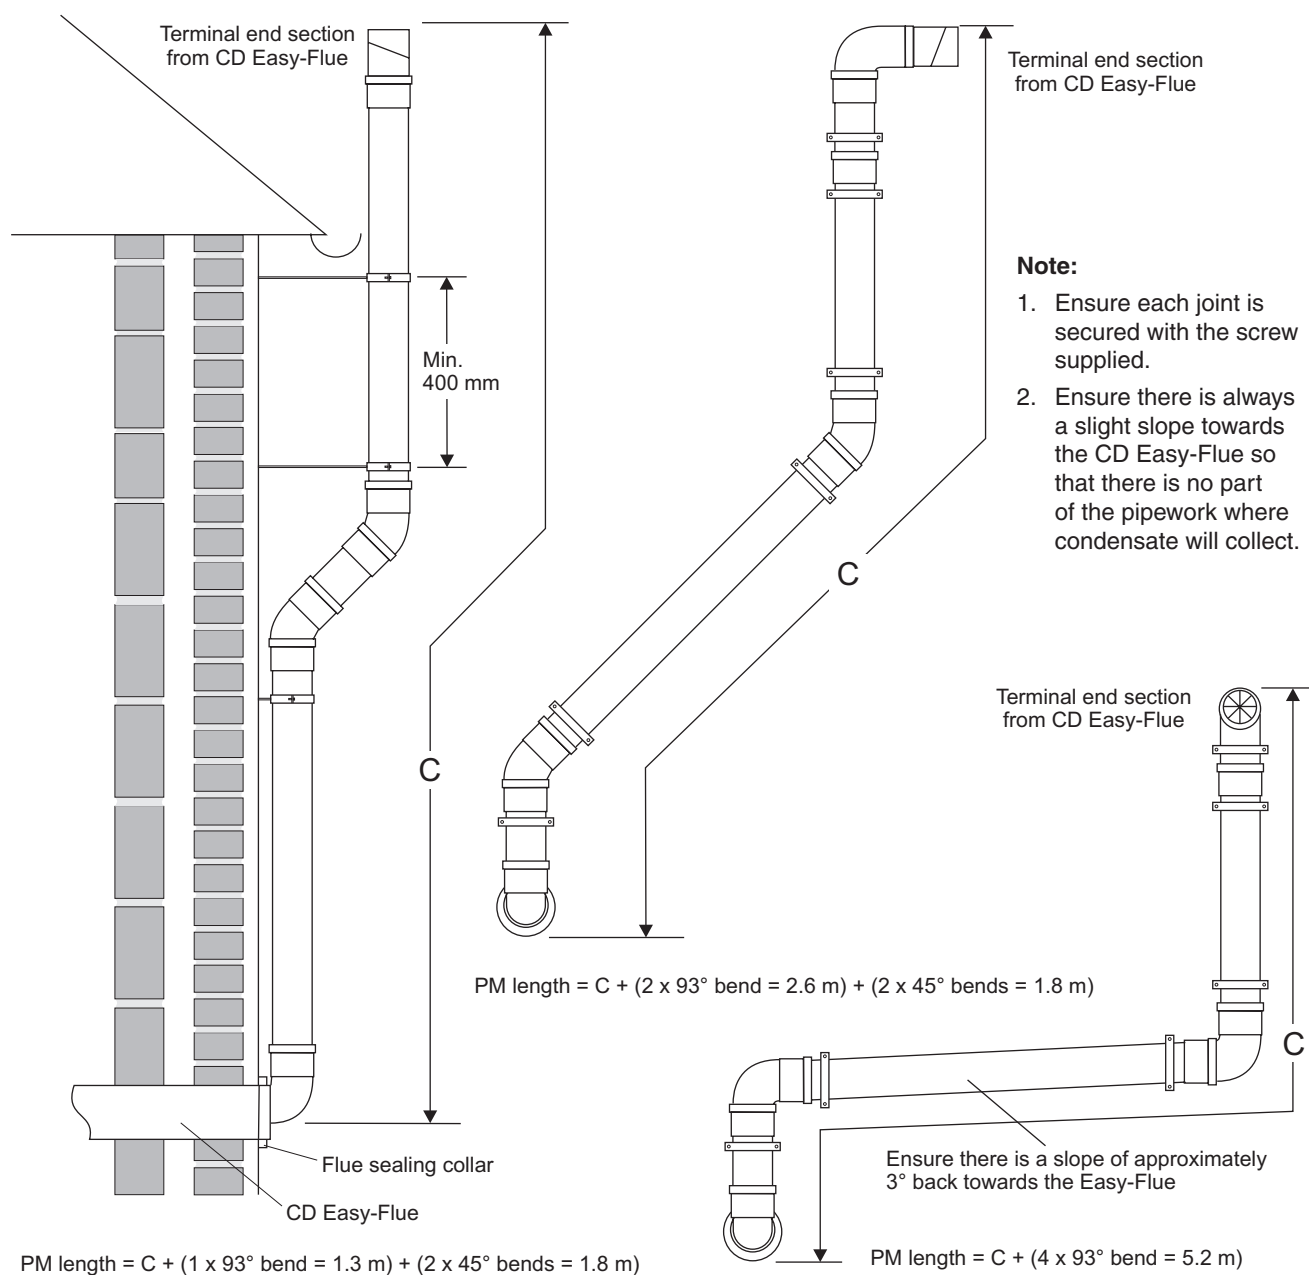

Fig. 5.15
- iii. Connect to the 93° bend the required Plume Management components as detailed and refer to Fig. 5.15.
- iv. Terminate the Plume Management pipework by fitting the terminal end section (push-fit) previously removed. Refer to Fig. 5.15.